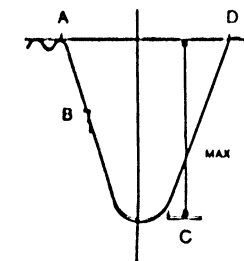

Fig. 15 VIF Maximum Detection (Refer to table 1)
8. Adjust the VIF control (FL404) for maximum. (Fig.15)